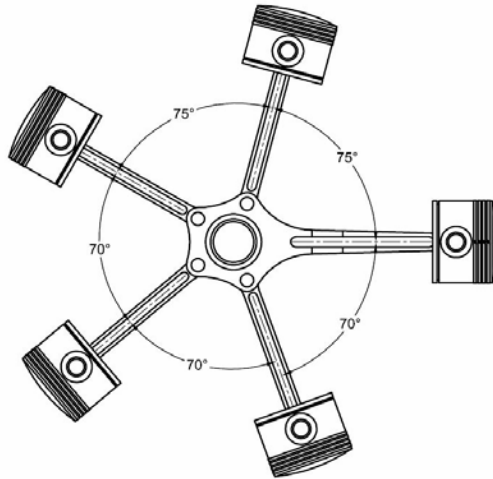

Figure 9-61 The assembly structure to be followed while assembling the subassemblies with the Master Rod
4. Similarly, assemble other instances of the sub-assembly with the main assembly by using the assembly constraints. The assembly structure to be followed while assembling the subassemblies with the main assembly is shown in Figure 9-61.